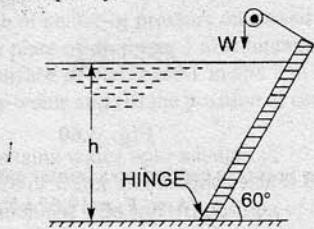

Fig. 3.54
14. A rectangular gate  $6 \text{ m} \times 2 \text{ m}$  is hinged at its base and inclined at  $60^\circ$  to the horizontal as shown in Fig. 3.54. To keep the gate in a stable position, a counter weight of 29430 N is attached at the upper end of the gate. Find the depth of water at which the gate begins to fall. Neglect the weight of the gate and also friction at the hinge and pulley. [Ans. 3.43 m]